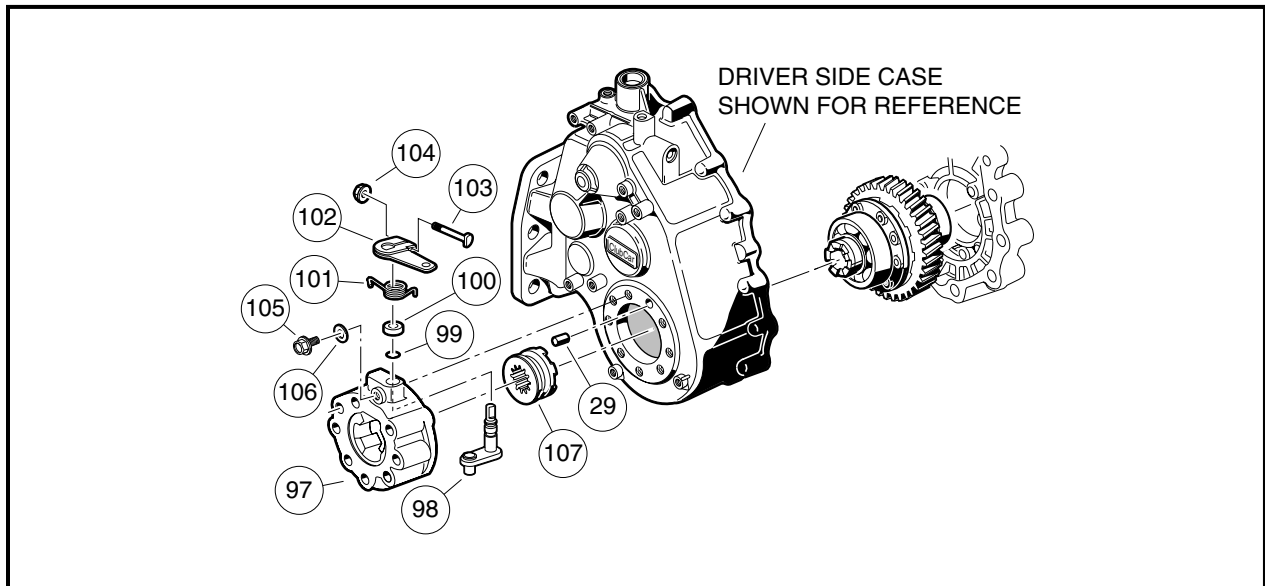

Figure 7-4 Differential Gear Case
2. Remove both the top and bottom lubrication port plugs and gaskets. Drain and dispose of the oil properly (**Figure 7-4, Page 7-3**).
3. Remove the differential lock housing (97) from the transaxle case (**Figure 7-4, Page 7-3**).